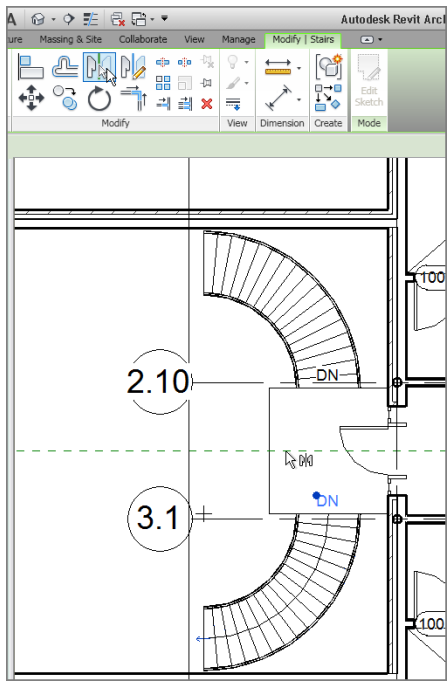

FIGURE 10.50: The mirrored stairs
3. On the Modify | Multi-Select tab, click the Mirror ➤ Pick Mirror Axis button, as shown in Figure 10.50.
Your stairs are now mirrored to the other side of the landing (see Figure 10.50).